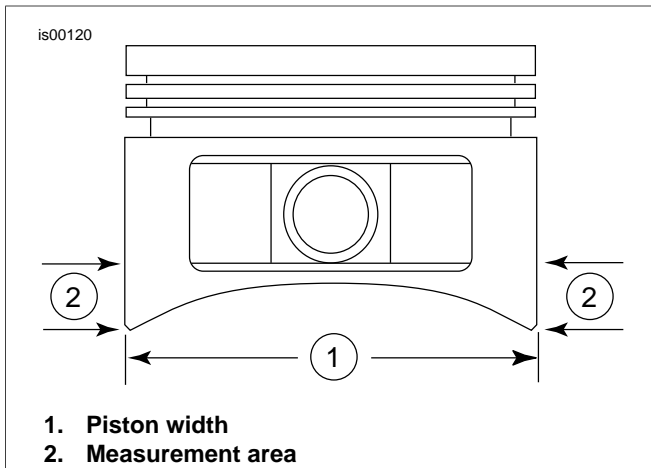

Figure 1. Piston Measurements
- See Figure 1. Measure the piston width (1), 90 degrees horizontally from both sides of the pin piston pin hole and at 0.144 in. above (2) the lowest portion of the skirt to determine piston-to-cylinder fit.